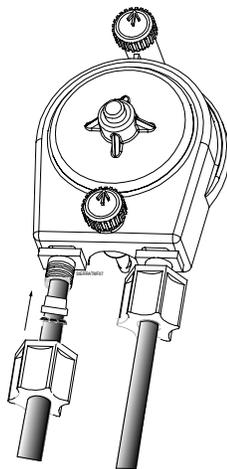

Figure 4. Installing Chemical Tubing
- e) Tighten to a secure fit. See Figure 4.
*It is very important that the nut components be installed correctly, as shown in Figure 4.*